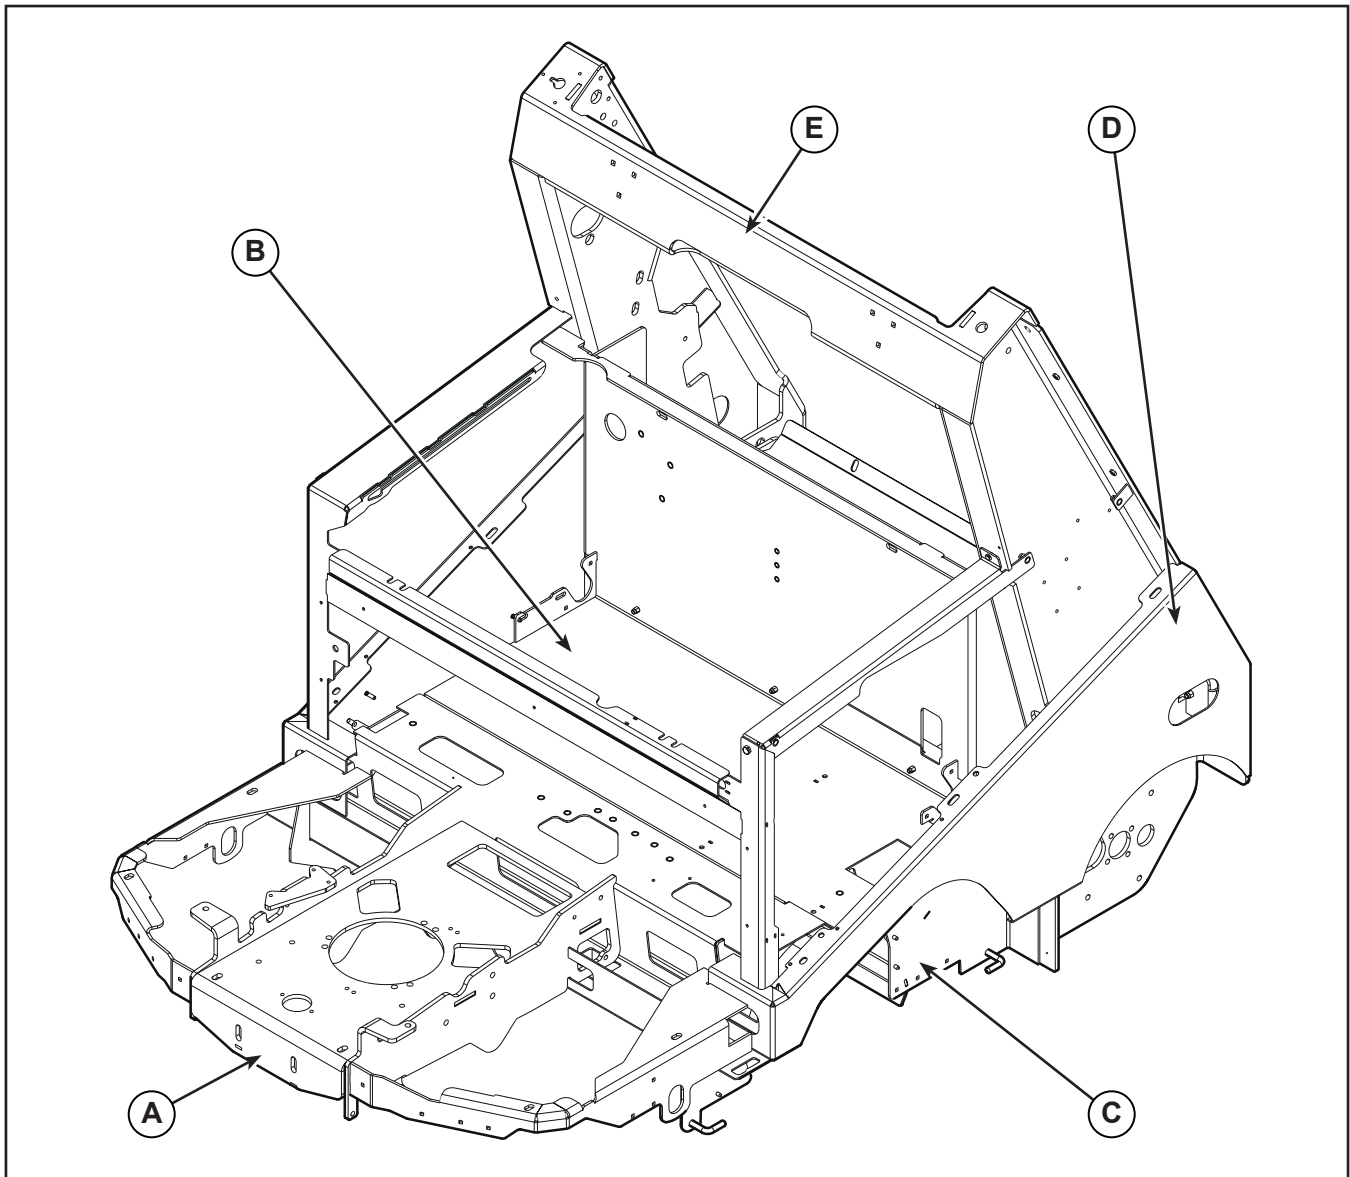

Figure 1
- Front section supporting the steering assembly, drive wheel and side brooms (A, Figure 1).
- Central section supporting batteries/engine with alternator (B).
- Lower compartment for central broom (C).
- Rear side supporting the hopper and rear wheels on hubs (D).
- Side and central holder for separating wall between engine compartment/vacuum system compartment, and for supporting the hopper lifting linkages (E).